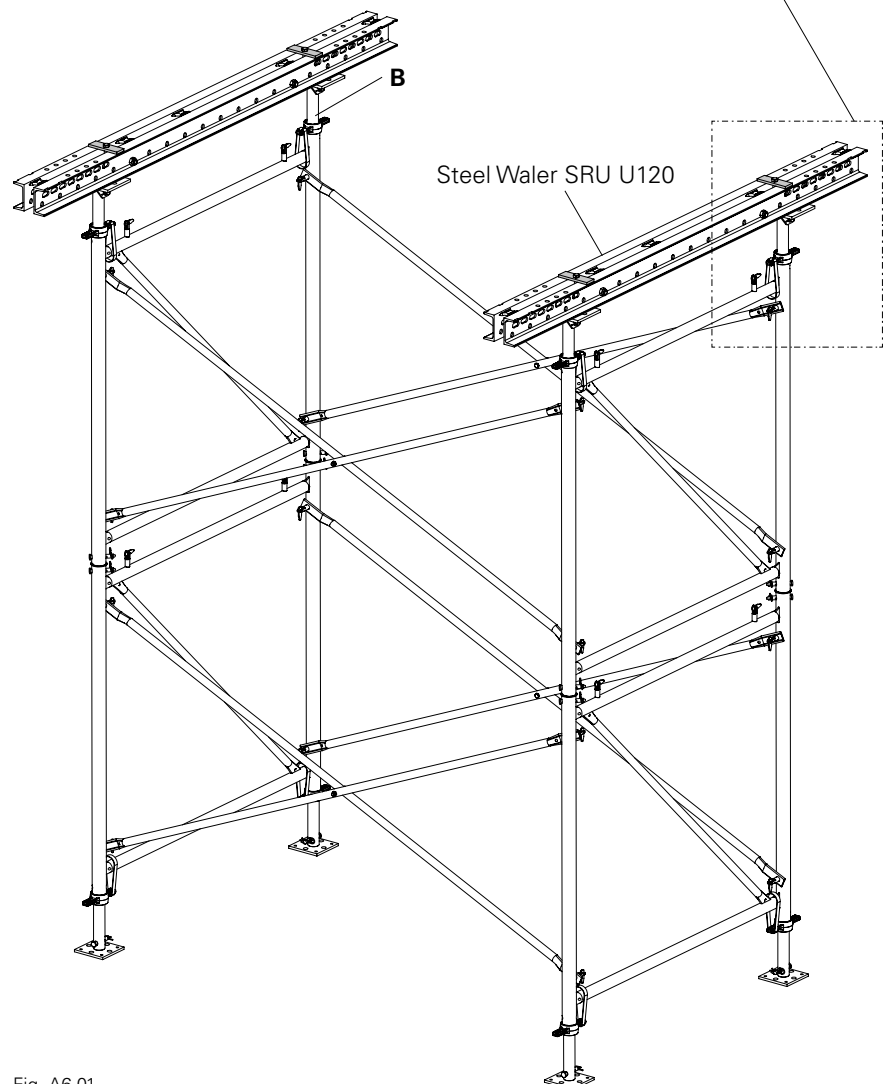

Fig. A6.01
3. Fasten the cross strap (**23**) onto the head plate for the Spindle Tube TR 48 (**10**) with bolt ISO 4014 M16 x 160-4.6 MU (**19**). (Fig. A6.01 + A6.01a)